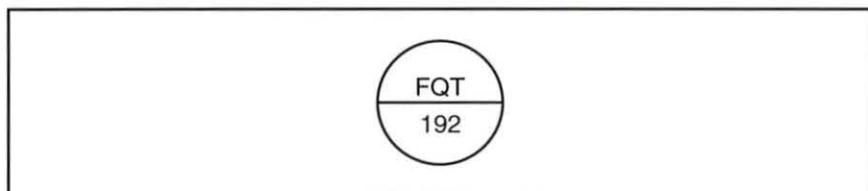

Figure 67. Instrument Tag
7. Determine the measured variable and function of the device using the instrument tag in figure 67.